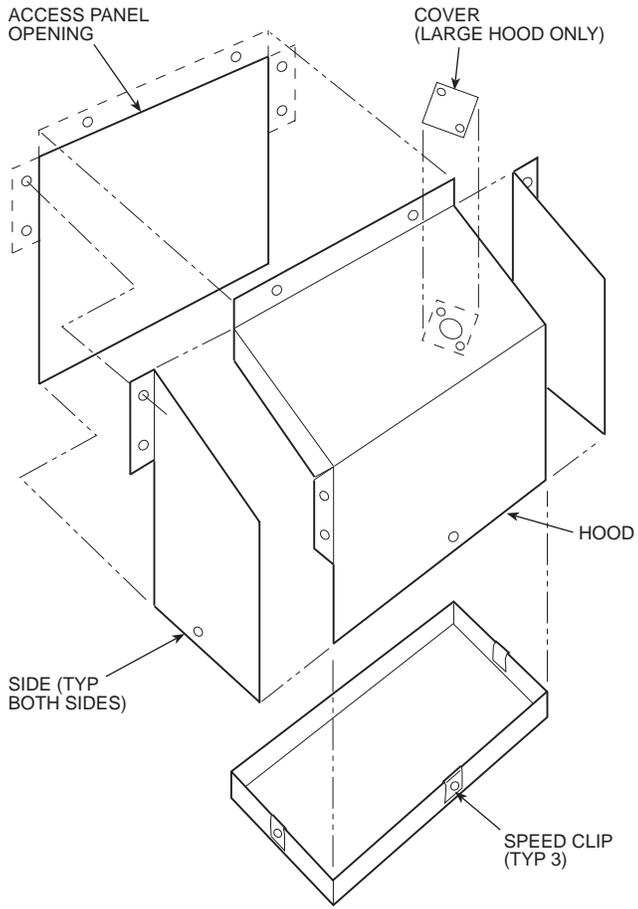
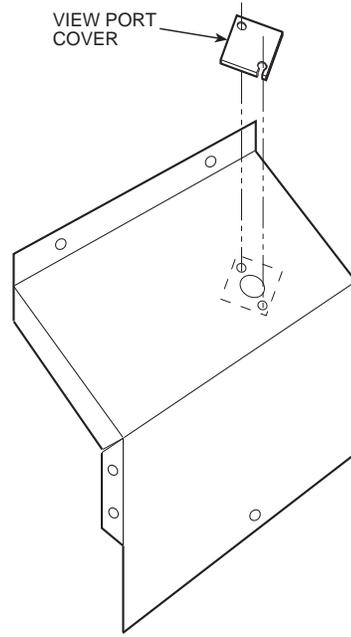

Fig. 65 — Inlet Hood Assembly
Fig. 66 — Inlet Hood View Port Cover Installation (055-105 Units Only)
4. Inlet hoods are shipped unassembled and must be assembled on the access panel (see Fig. 65). Flanges of the hood top and sides should be placed on the inside of the access panel openings. Install hood top and sides with screws provided. Attach speed clips to screen and insert screen into bottom opening of hood. Secure with 3 screws. On large inlet hoods, attach viewport cover over opening in hood (see Fig. 66). Secure with two screws.